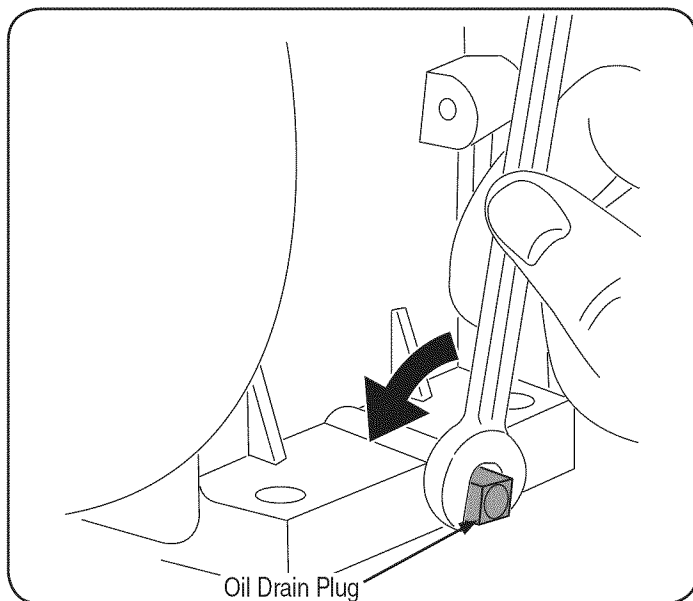

Figure 17
4. Remove the oil drain plug, Figure 17.